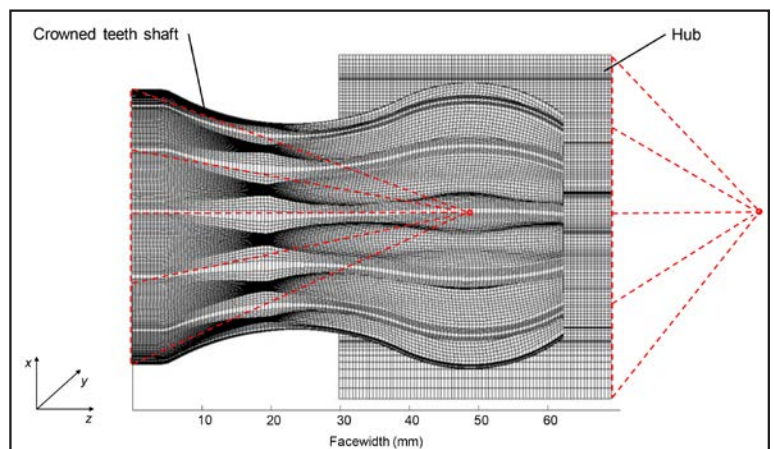

Figure 2 Spherical gear coupling’s numerical FEM model.
**Mesh.** In order to develop the numerical model, the geometry of the spline coupling (external and internal splines) has been scanned using a 3D coordinate measuring machine (Mitutoyo BHN710 with a 0.75 mm pointer). The surface of the spherical spline coupling has been scanned, followed by an automatic meshing procedure that has been developed using the previously scanned points (Fig. 2).
**Boundary conditions and case studies.** Additionally, rigid connectors have been introduced between the external toothing (crowned teeth shaft) and the center of the spherical part of the spline coupling in order to apply the tilting boundary condition. Similarly, rigid connectors have also been introduced between the end of hub (internal teeth part) and a coaxially located point in order to apply the torque (Fig. 2).